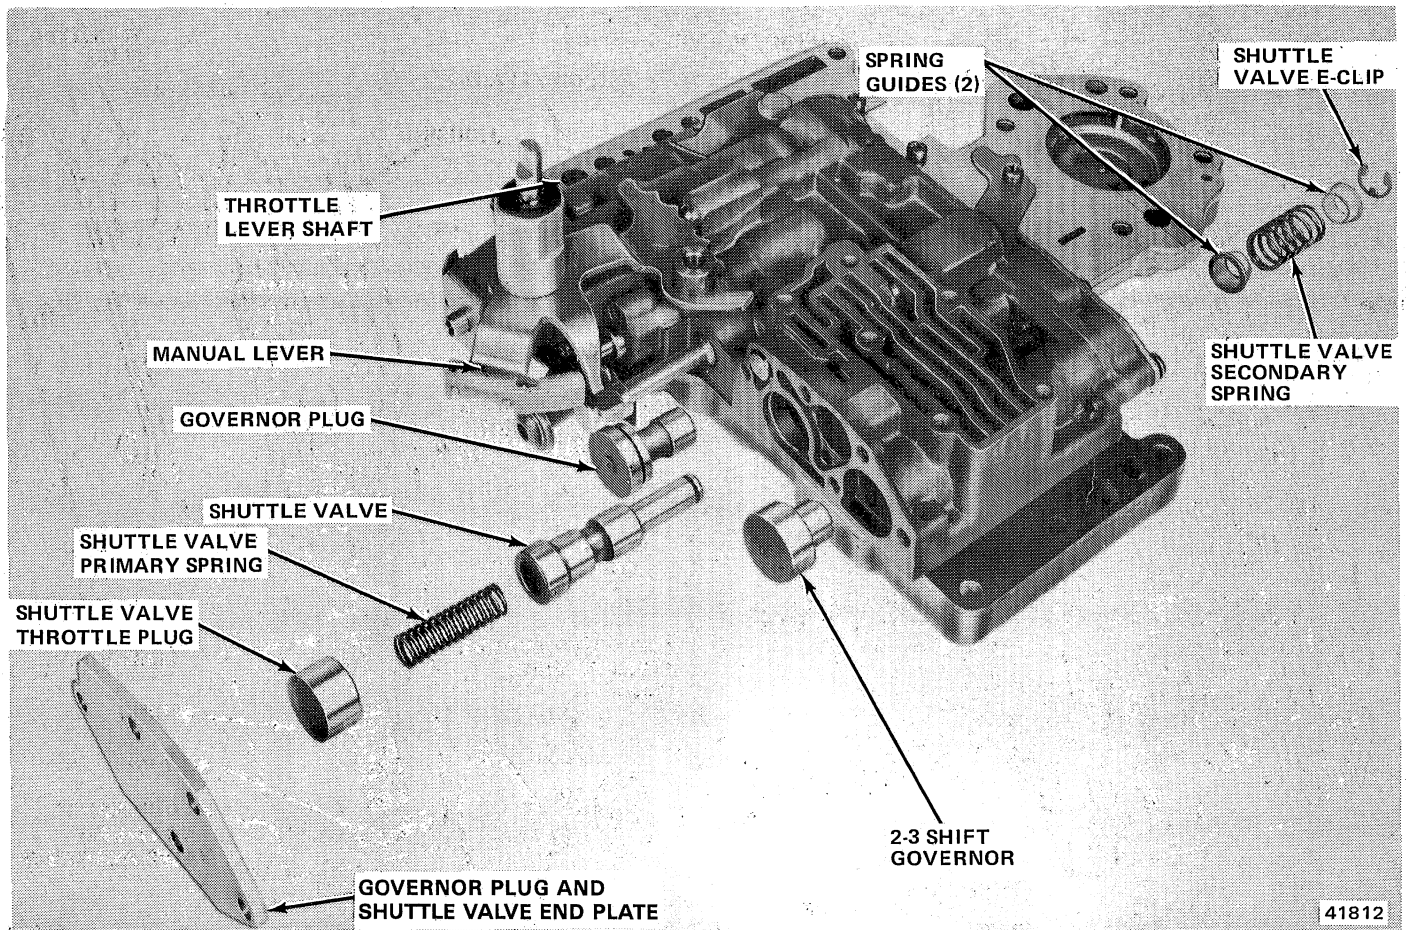

Fig. 2C-47 Shuttle Valve and Governor Plugs
(19) Remove E-clip, washer, and seal from throttle valve lever shaft (fig. 2C-47).
(20) Remove burrs on shaft with crocus cloth.
(21) Slide manual lever assembly off throttle lever shaft and remove throttle lever assembly.
(22) Remove E-clip and park control rod from manual lever.